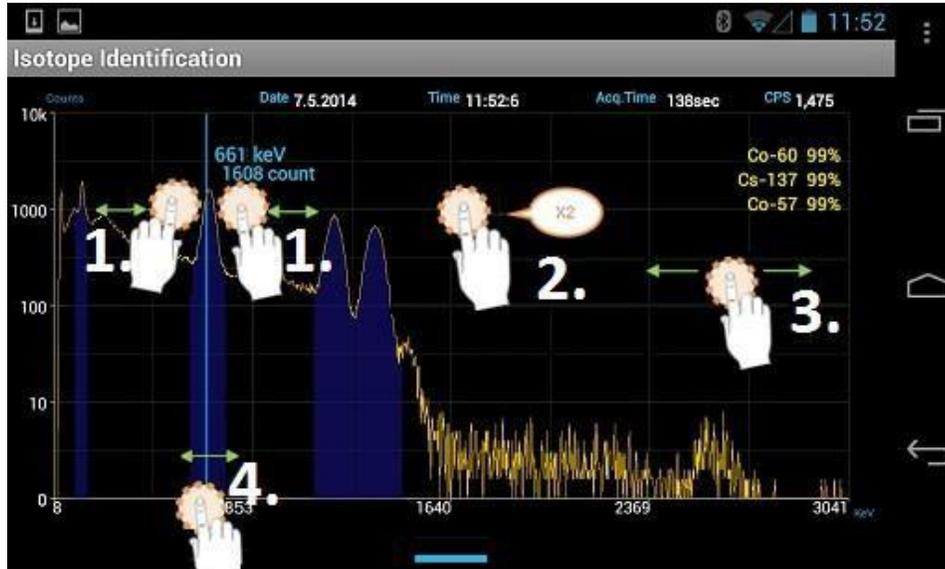

Figure 4.5. Spectrum manipulation features
You can manipulate the spectral display by touching areas of the screen (Figure 4.5).
3. Rotate the smartphone 90° to initiate the Isotope Identification screen and enable manipulation of the spectrum as described in Figure 4.5.
Refer to Figure 4.5 for instructions on using the spectrum analysis tools.